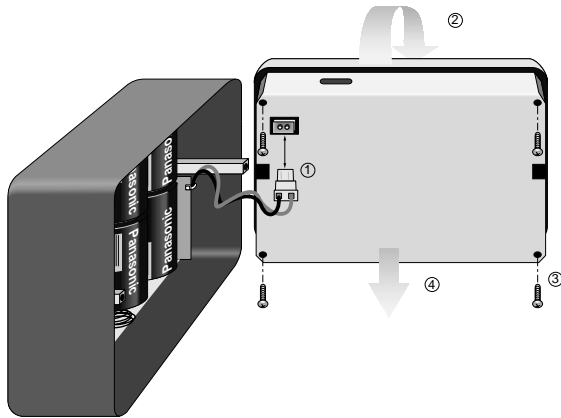

FIGURE I-3. Removing the Back Cover of the Faceplate
6. Disconnect the Molex connector to separate the base from the faceplate (① on Figure I-3).
7. Rotate the faceplate onto its face (② on Figure I-3).
8. Use the Phillips screwdriver to remove the four screws that hold the back cover to the faceplate and printed circuit boards (③ on Figure I-3). The screws are attached to spacers that may move once the screws have been removed... so if something rattles, don't panic (yet).
9. Remove the back cover of the faceplate (④ on Figure I-3).